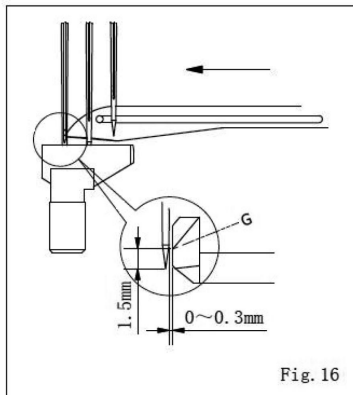

Fig. 16
1. 当勾针之尖端移到左针中心线时, 左针尖与前护针片之 (G) 线约 1.5mm, 此为前护针片之高度。且左针与前护针片间隙约为 0.3mm。(图 16)
1. When the tip of Looper moves to the center of left needle, the distance of the tip of left needle pass the line (G) of Front Needle Guard is about 1.5mm. This is the height of Front Needle Guard. The clearance between the Front Needle Guard and right needle is about 0.3mm. (Fig. 16)